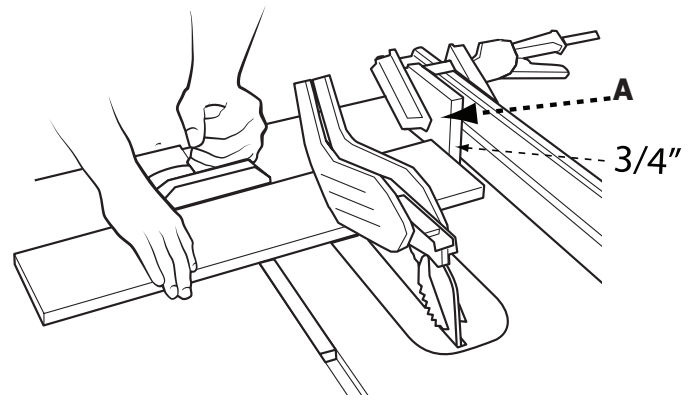

FIGURE 32
When crosscutting a number of pieces to the same length, you can clamp a block of wood (A) (FIGURE 32) to the fence and use it as a cut-off gauge. The block (A) must be at least $\frac{3}{4}$ -inch (19 mm) thick to prevent the cut off piece from binding between the blade and the fence. Once the cut-off length is determined, lock the fence and use the miter gauge to feed the workpiece into the blade.